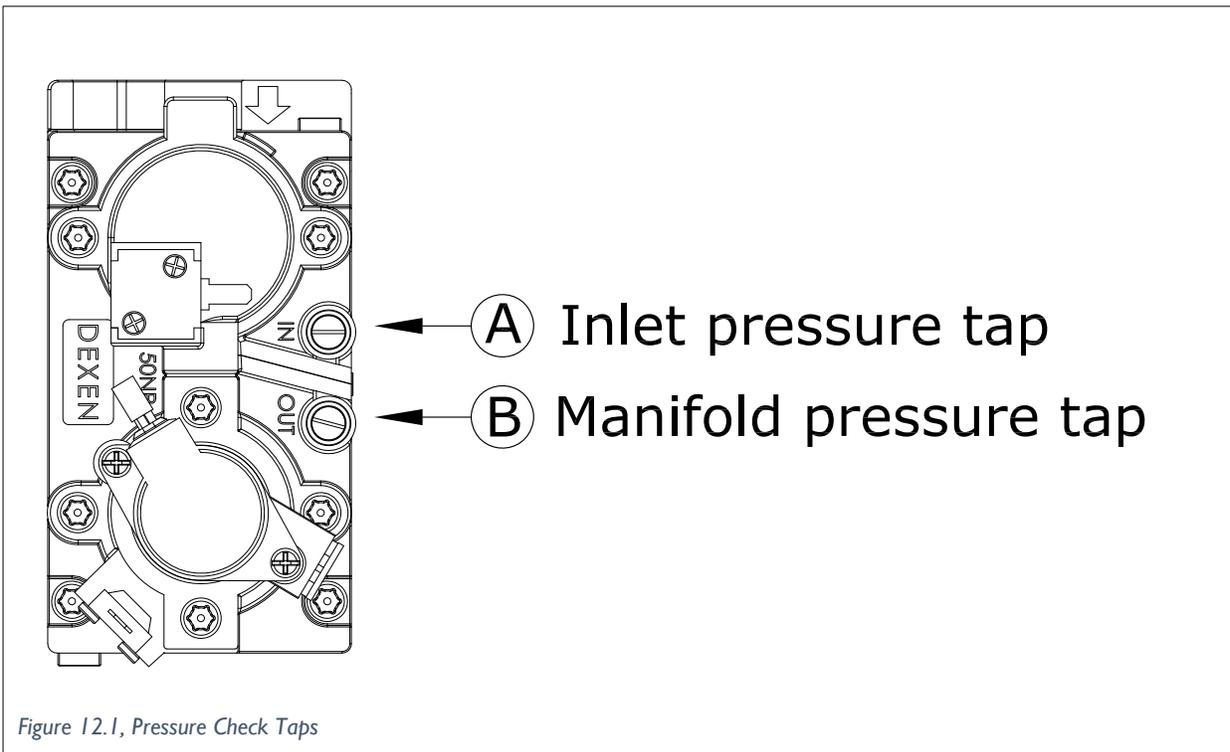

Figure 12.1, Pressure Check Taps
1. Loosen the inlet (IN) pressure tap by turning screw counter-clockwise. See (A) in FIGURE 12.1.
5. Disconnect hose and tighten the inlet (IN) pressure tap by turning screw clockwise. Screw should be snug. Do not over tighten.
6. Relight pilot and burner. Then reattach manometer to the inlet pressure tap (A) to verify the tap is completely sealed. Manometer should read no pressure.
2. Loosen manifold (OUT) pressure tap by turning screw counter-clockwise. See (B) in FIGURE 12.1.
7. Attach the manometer to the manifold pressure tap (B) to verify it is completely sealed. The manometer should read no pressure when pilot and burner are on